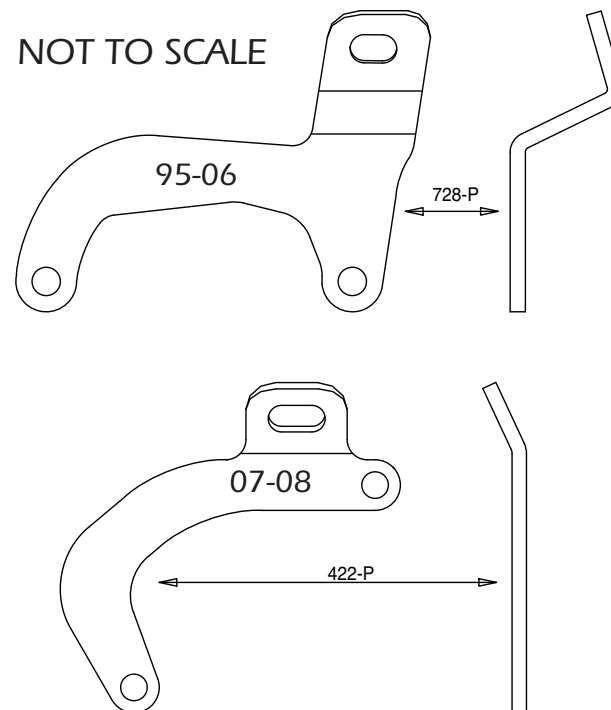
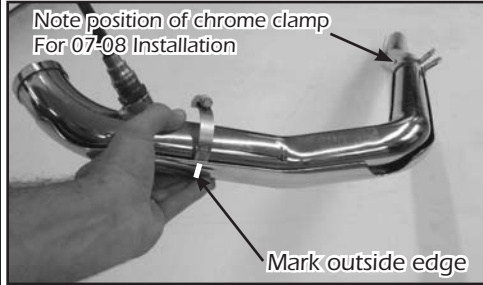

FIGURE 4
FIGURE 5
- Late Models 07-08:** Slide the chrome clamp (supplied) onto the front head pipe (D450FC) (supplied) so it sits near its installed position (Figure 4 & 5).
- Lay the rear head pipe (D451FC) into the heat shield and install each hose clamp by feeding tail end of clamps into heat shield clips. (Figure 4) Take note of location of clamp screw head direction (Figure 5) (screw head must be accessible when system is installed for adjustment purposes).